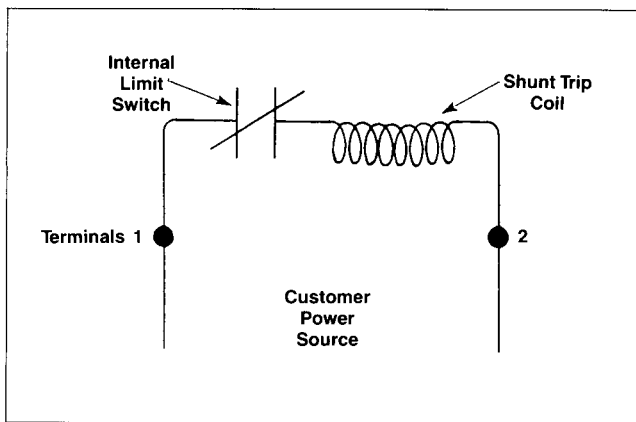

Figure 1
- Connect test circuit to accessory terminals 1 and 2 (Figure 1).